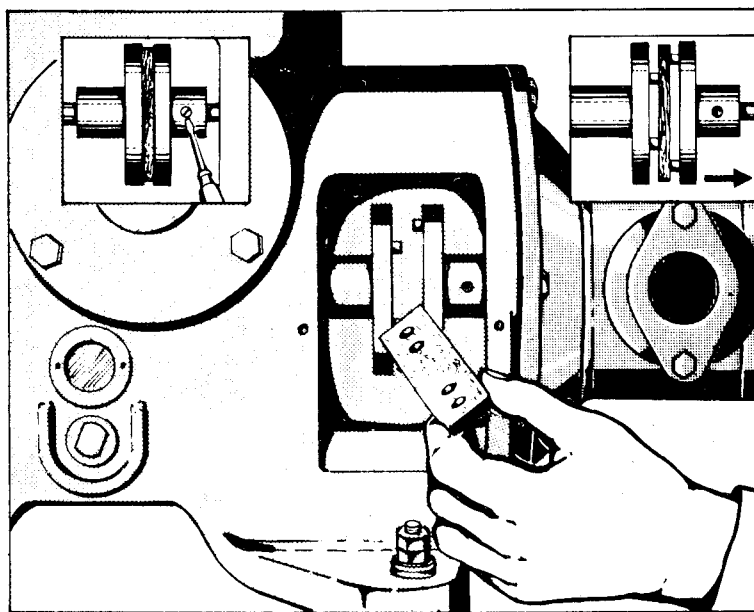

Fig. 3/34
- 2) Loosen threaded pin 355 and push clutch pulley 354 on pump shaft end towards pump side (fig. 3/34).